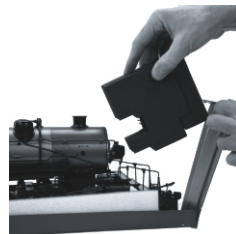

Figure 5
2. Pull the front end of the shipping frame forward and remove the gray from around the headlight. As shown in Fig. 5.